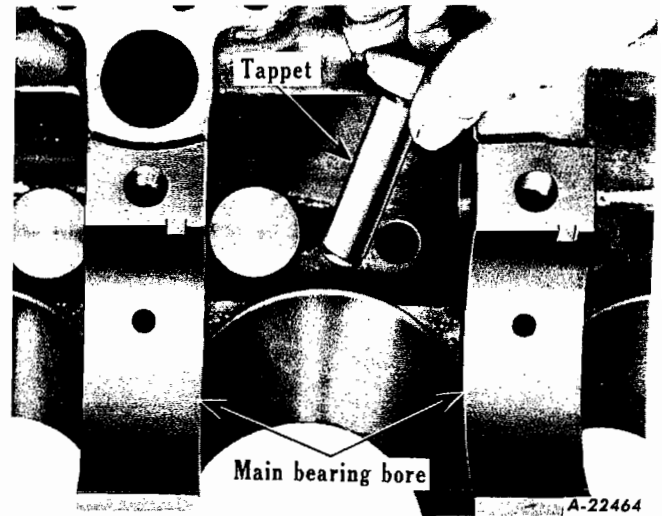

Fig. 47
- INSTALL VALVE TAPPETS. Coat each of twelve valve tappets with heavy engine oil and install from crankcase side of engine (Fig. 47).